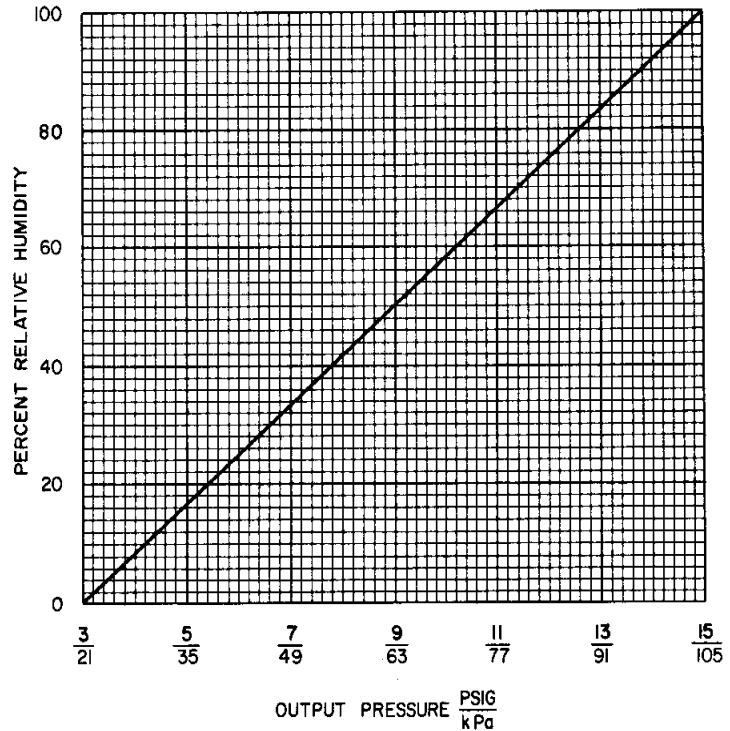

Fig. 2: Relative Humidity vs Output Pressure
Calibration (See Fig. 2)
2. From the graph in Fig. 2, find the proper transmission pressure corresponding to the measured relative humidity.